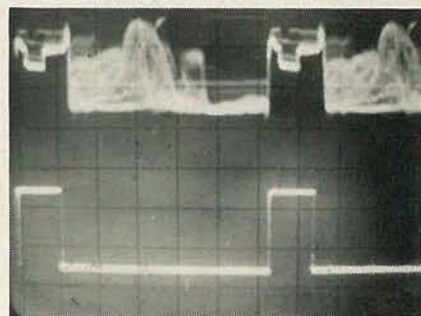

FIG. 8—UPPER TRACE shows scrambled signal; lower one shows gating pulse from decoder.
4. Adjust R6, R7, and R8 to obtain the waveform shown in Figs. 8, 9 and 10. First adjust R6 and R7, then R8, to obtain the waveform shown in Fig. 10. Some slight readjustment of R6 and R7 may be necessary to eliminate spiking at the leading and trailing edges of the horizontal-blanking pulses.